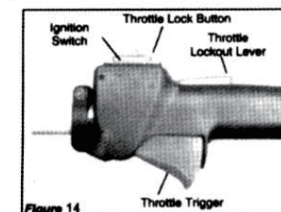

Figure 14
1. set the throttle trigger to "fast idle" as follows (Figure 14):